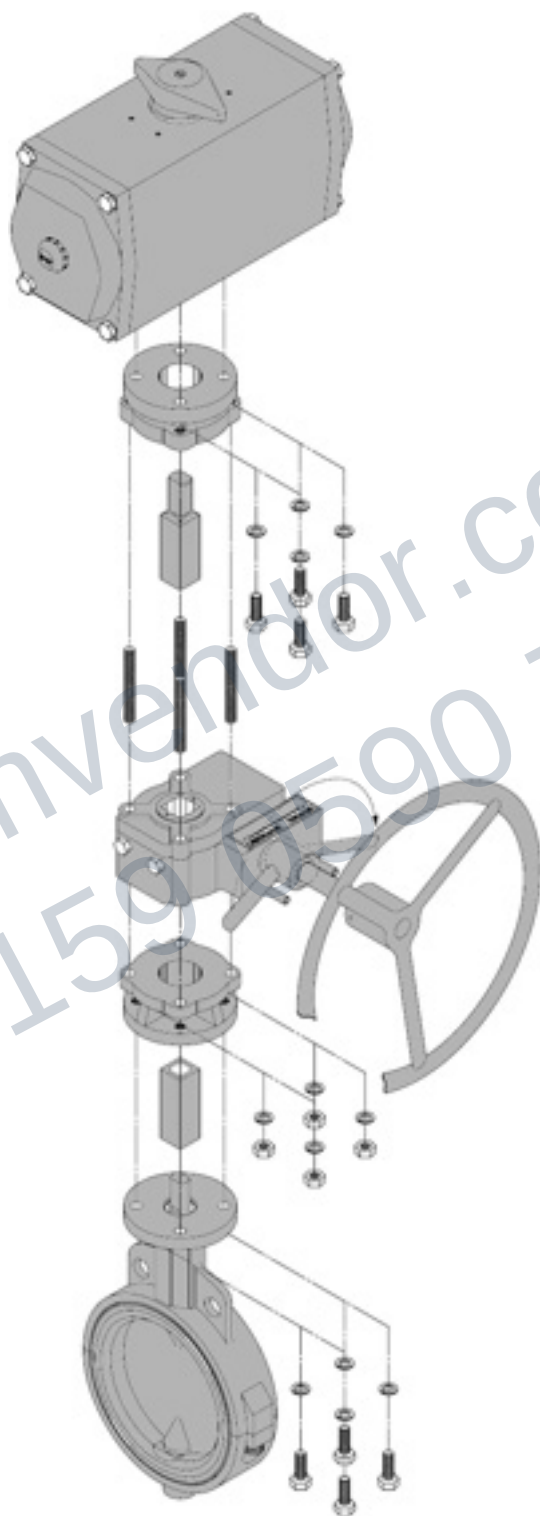

Figure 1. General Series 05 assembly.
1. The S05 can be oriented with the handwheel input shaft either perpendicular or parallel to the pipeline for standard clockwise-to-close operation without any special modification. The orientation of the S92/93 actuator, either perpendicular or parallel to the pipeline, does not depend on the orientation of the S05 manual override gear. Refer to Fig. 1 for typical installation orientations.
1. Carefully examine the parts in the kit to make sure where each is used. Refer to exploded view drawing Fig. 1 for a typical assembly. The 24:1 unit requires an adapter spool between the S05 and the actuator mounting flange on the valve. Some larger gearboxes have drilled and tapped holes in the base to fit directly to the valve. Still others require an adapter/spacer plate between the valve and the S05.